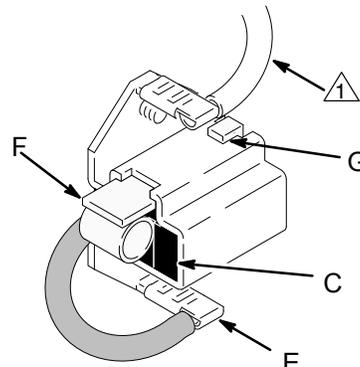

Fig. 16 03881
6. Place a new brush (C) in the holder (B) so the ramp (H) faces the spring. See Fig. 16.
7. Holding the spring clip (F) at a slight angle, slide the spring clip into the brush holder and hook it over the end of the holder. See Fig. 16. Pull on the spring clip to be sure it stays in place. Connect the brush lead to the blade connector (E).